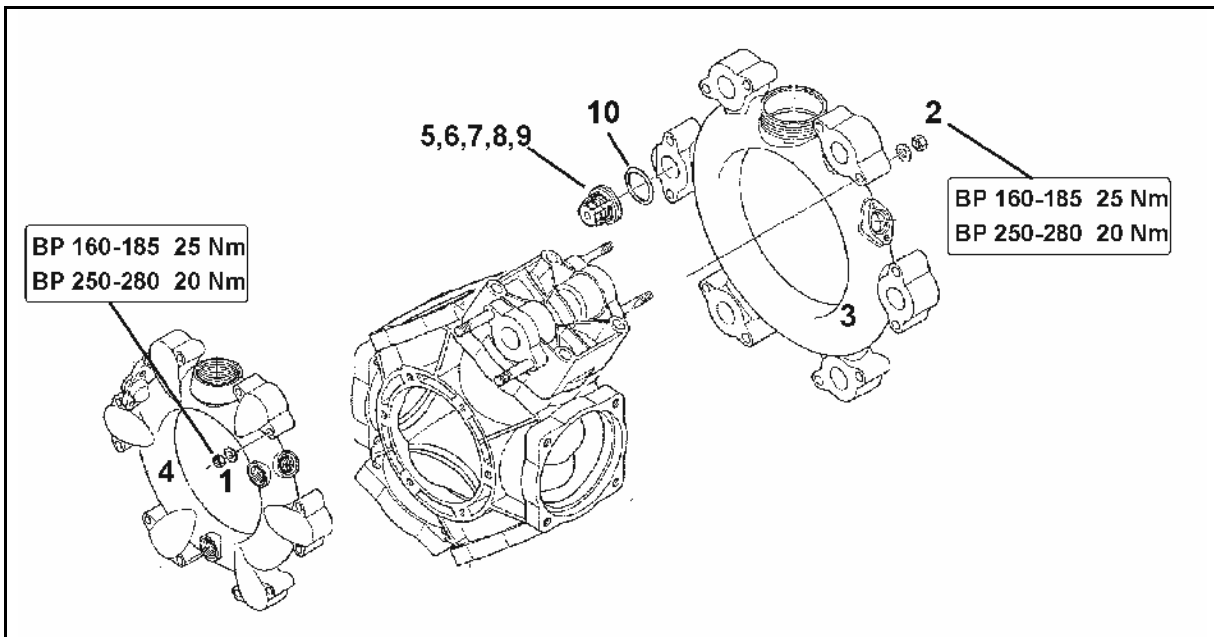
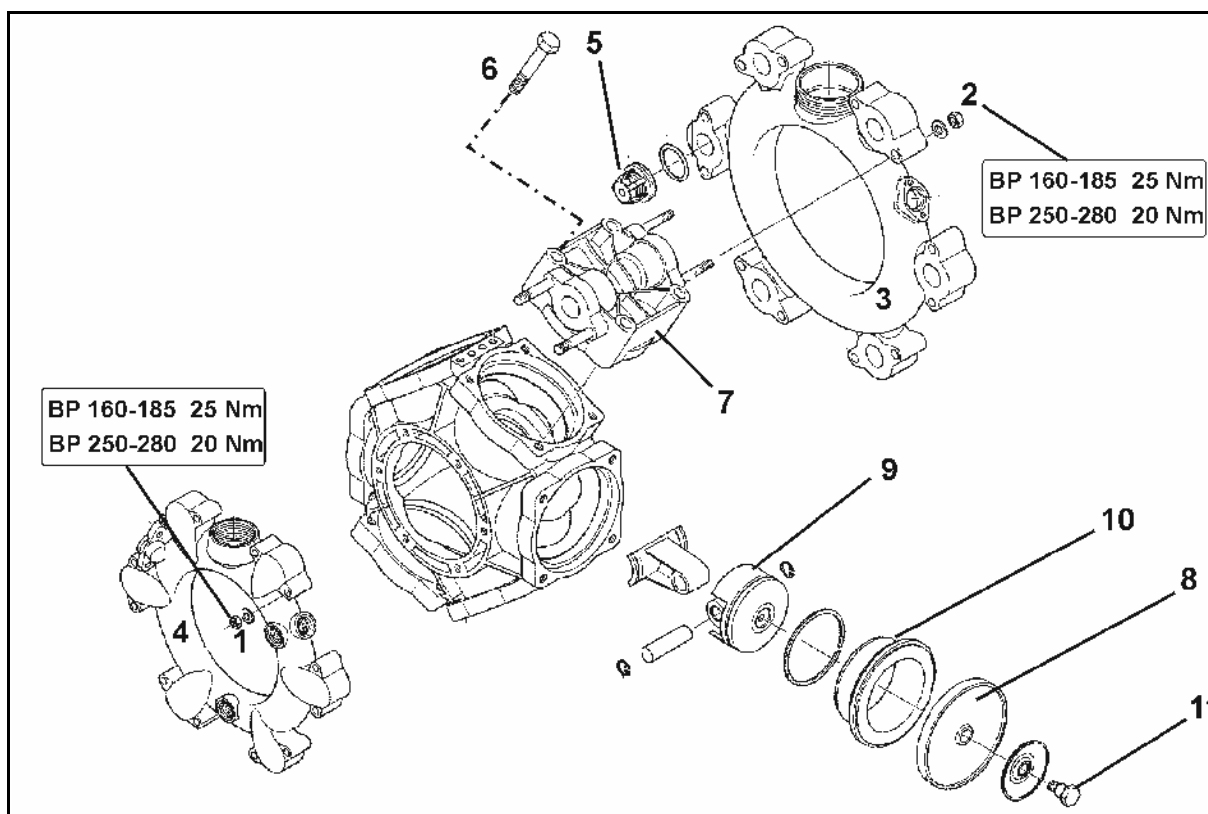

Fig. 140
Fig. 141
- Pay attention to the respective installation positions of the valves on the suction and pressure sides before removing the valve groups (5).
- When reassembling, ensure that the valve guide (Fig. 140/9) is not damaged. Damage may cause the valves to jam.
- Always tighten the screws (Fig. 140/1) in a crosswise fashion using the specified torque. Improper tightening of the screws causes warping, which results in leaks.
3. Remove the suction and pressure port (Fig. 140/3 and Fig. 140/4).
4. Remove the valve groups (Fig. 140/5).
5. Check the valve seat (Fig. 140/6), valve (Fig. 140/7), valve spring (Fig. 140/8) and valve guide (Fig. 140/9) for wear or damage.
6. Remove the O-ring (Fig. 140/10).
8. After testing and cleaning, fit the valve groups (Fig. 140/5).
9. Insert new O-rings (Fig. 140/10).
10. Mount the suction (Fig. 140/3) and pressure port (Fig. 140/4) on the pump housing.
11. Tighten the nuts (Fig. 140/1,2) in a crosswise fashion using a torque of **25 Nm (BP 160-185) / 20 Nm (AR 250-280)**.
- At least once a year, check that the piston diaphragm (8) is in perfect condition by removing it.
- Pay attention to the respective installation positions of the valves on the suction and pressure sides before removing the valve groups (Fig. 141/5).
- As a rule, replace all piston diaphragms (Fig. 141/8), even if only one piston diaphragm distorted, punctured or porous.
2. Remove nuts (Fig. 141/1, 2).
3. Remove the suction and pressure port (Fig. 141/3 and Fig. 141/4).
4. Remove the valve groups (Fig. 141/5).
5. Remove the nuts (Fig. 141/6).
6. Remove the cylinder head gasket (Fig. 141/7).
7. Check the piston diaphragm (Fig. 141/8).